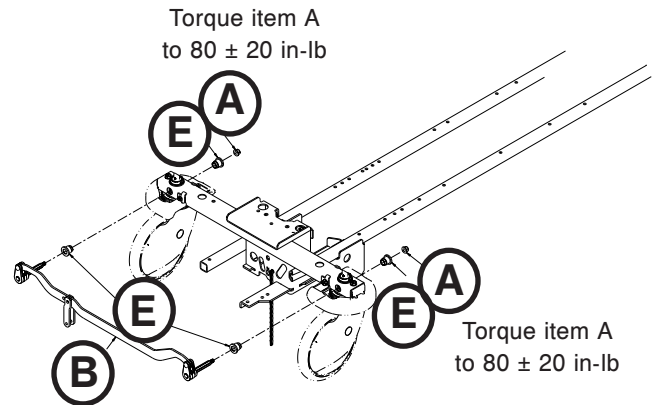

Figure 10
6. Using a 1/2" socket with a 3/8" drive extension and a 3/8" drive ratchet, remove the two flange nuts (A) (one on each side) that secure the brake cam and link assembly (B) to the casters (Figure 10).
10. Reverse steps to reinstall. Torque the two flange nuts that secure the brake link assembly to the casters to  $80 \pm 20$  in-lb (Figure 10).
**Note:** When installing the brake timing link assembly, be sure to reinstall the bushing (E) which may have fallen off during the removal of the old brake cam and link assembly (Figure 10).